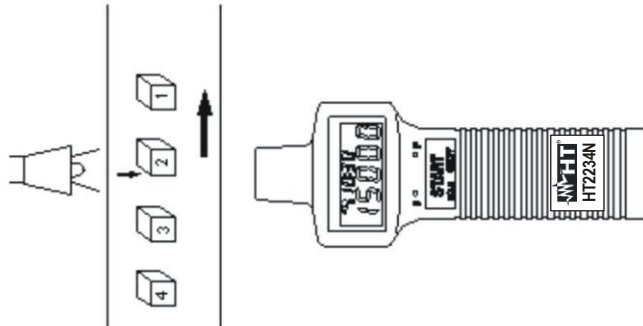

Fig. 5: events counter with external light source
1. Place the external light source strictly close to Receiving unit (right side) like is shown in Fig. 5: